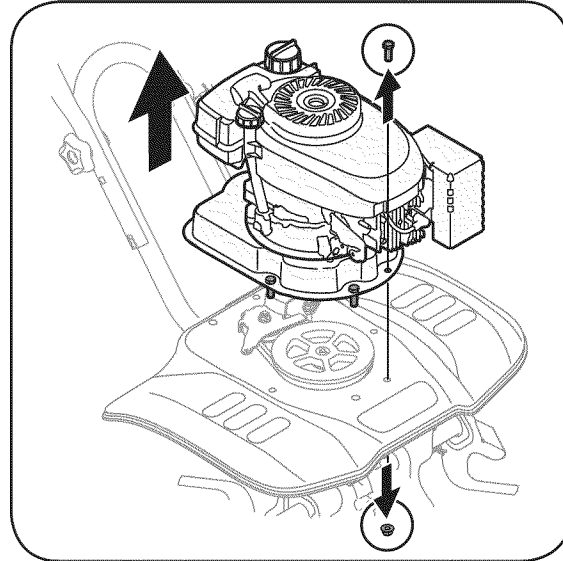

Figure 6-1: Remove engine and frame to gain access to the belt. (Model 241 shown)
1. Remove the frame and engine by removing the six screws and lock nuts holding the engine and frame to the shield, Figure 6-1.